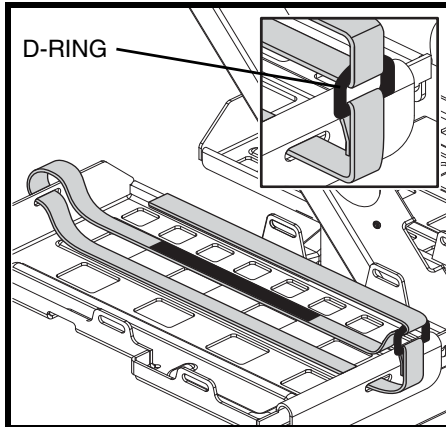

Figure 16. Front-To-Back Strap
4. Disconnect the battery tie-down straps. **See figures 16 and 16A.**
1. Route the front-to-back strap first by inserting it through the front slot of the battery well, ensuring the reusable fastener side is facing down, and then through the rear slot of the battery well. **See figure 16.**
NOTE: Before securing both straps, ensure the D-ring is positioned as shown in figure 16. The D-ring should be positioned within 2.54 cm (1 in.) of, but never touch the battery well.